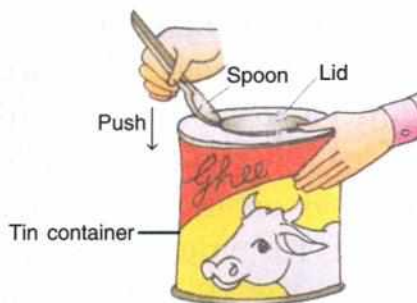

Fig. 4.1 Opening the lid of a tin container using a spoon
1. Suppose the lid of a tin container is tightly closed and you want to open it. First try to open the lid with your finger nails. You will find that you are unable to open it. Then take a spoon and insert the front end of the spoon between the lid and the edge of the tin, and then push the other end of the spoon (Fig. 4.1). You will find that the lid gets opened. Thus, the spoon here is used to serve as a machine in opening the lid.